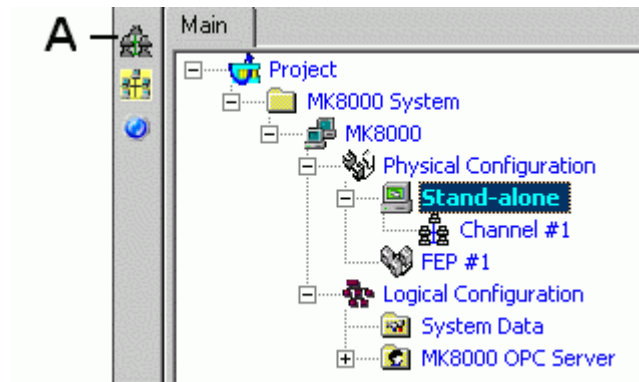

Fig 1 Adding the Video Network Manager (A)
The Fig 1 illustrates how to add the VNM to the configuration:
2. Click the button A to add the VNM (see Fig 1).